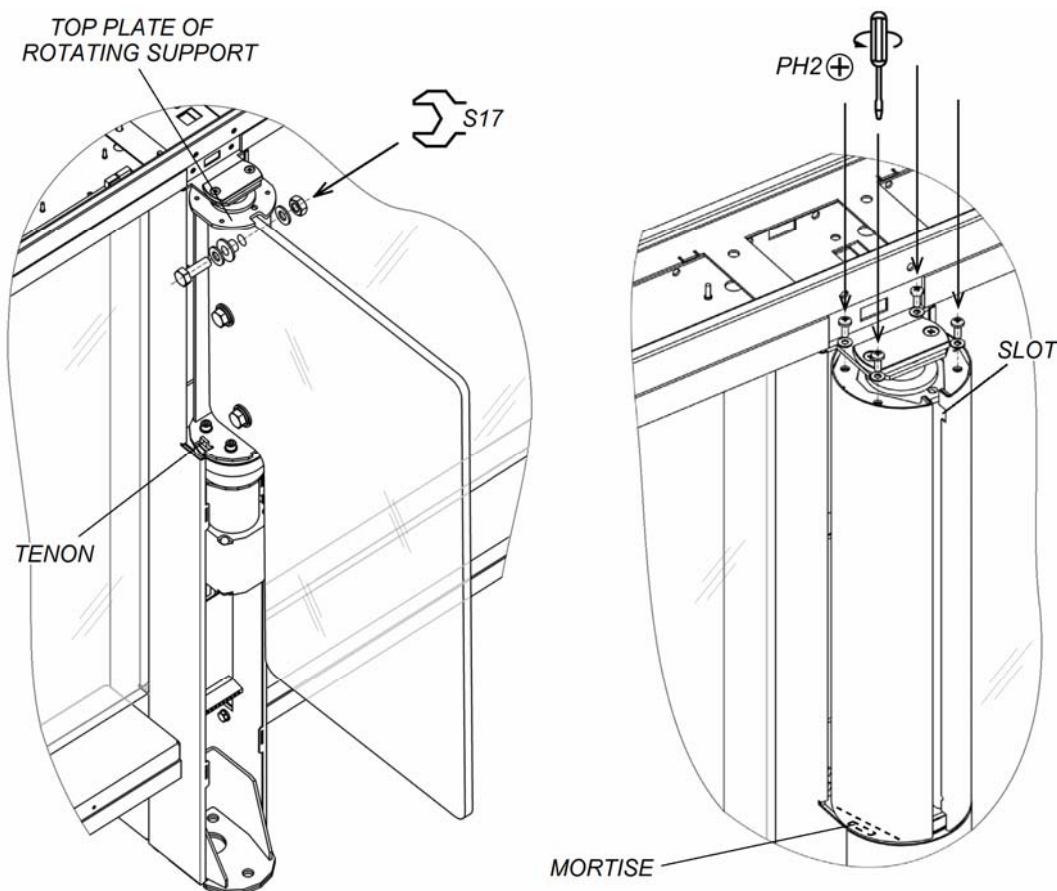

Figure 23. Swing panel and its cover plate
- Check the LEDs on intrusion detector board, located in the top (12) and bottom (15) ducts of *Master* and *Slave* sections (before checking remove the top covers in the bottom ducts, Section 8.8.8):
- In case of disconnection between intrusion detector board and the control board, intrusion detector LEDs will start blinking – check DC (19) and CAN (20) cables connection in the terminal blocks.
- Install the central post cover plates (5) (Section 8.8.1).
- Install the swing panels cover plates (4) (Fig. 23, Section 8.8.5, included in the tool set).
Two people shall install and remove the swing panels. The swing panel is fixed to the rotating support in three places with M10×30 bolts, 10 washers, plastic bushing and M10 screws (Fig. 23). Use S17 open end wrenches.
2. Assemble one of the cover plate components on the rotating support. In order to do that, mount the cover plate on the upper plate of the rotating support through the slots in the upper part of the cover plate. After that, shift the cover plate down to the end, mounting the bottom cover plate mortise into a tenon, located in the bottom part of the rotating support (Fig. 23).